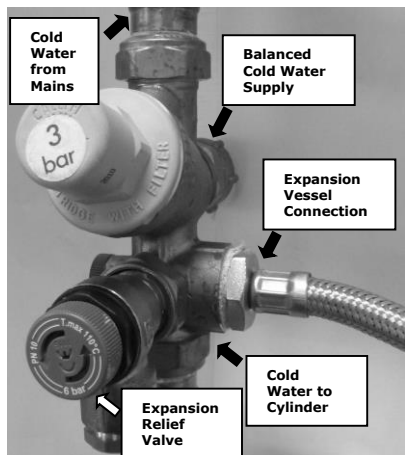

Figure 5: Detail showing the connection of the expansion vessel to the inlet group
**Note: The expansion vessel must be installed to the side of the expansion relief valve on the inlet group. To do this the blanking plug must be removed and the expansion vessel connected, as shown in Figure 5.**